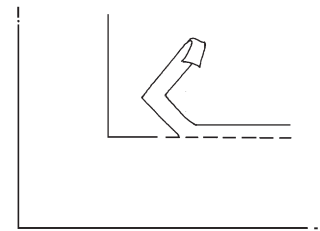

Fig. 21-3
1. Pretrim the seam allowance from the inside corner before serging. (Fig. 21-3) This means you will not be trimming away any fabric with the serger knives as you stitch.